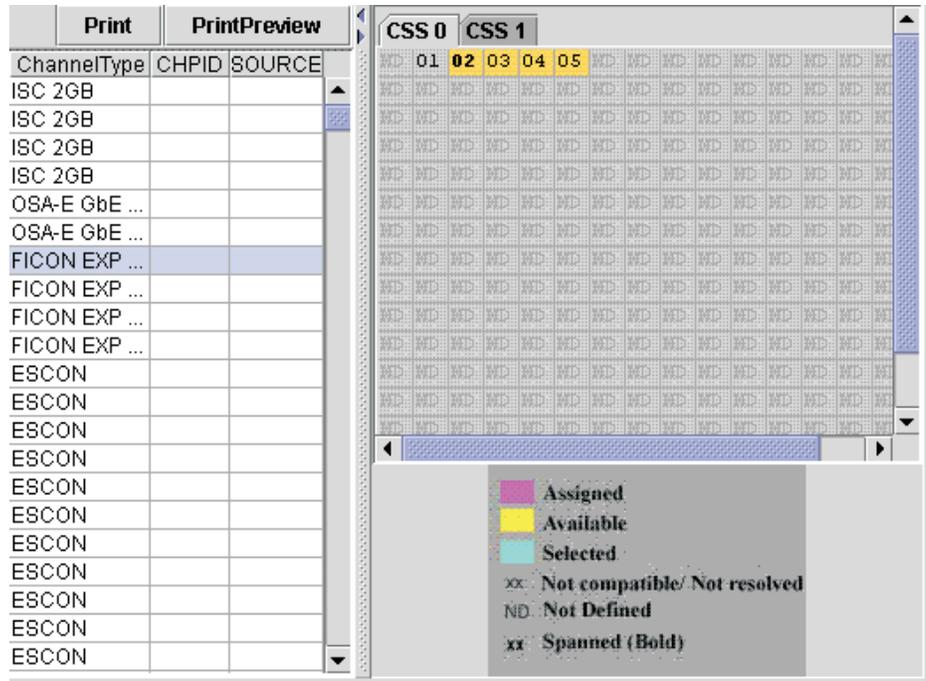

Figure 31. Selecting a Channel
4. Select a channel in the left side of the window. Selecting a channel highlights the available CHPIDs in yellow on the right side of the panel; see Figure 31 on page 29. This shows a FICON Express channel selected; CHPIDs 02, 03, 04 and 05 in CSS 0 are available for this channel type.